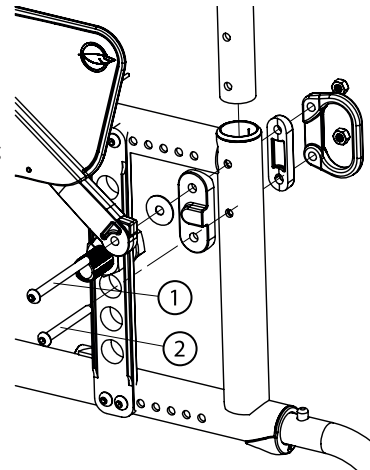

Fig. 10
- Loosen the top bolts (1) (Fig. 10) and (2), which are also used to support the armrest socket (Swing Away and Flip Back armrest).
- Tighten bolts (1) and (2) firmly.
- Wheelchairs equipped with Flip Back armrests; tighten screw (1) while paying special attention to the force needed to flip back the armrest.